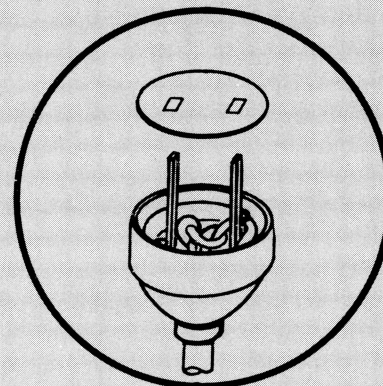

Fig. 11
11. Place insulation cover back over the plug. (Fig. 11).